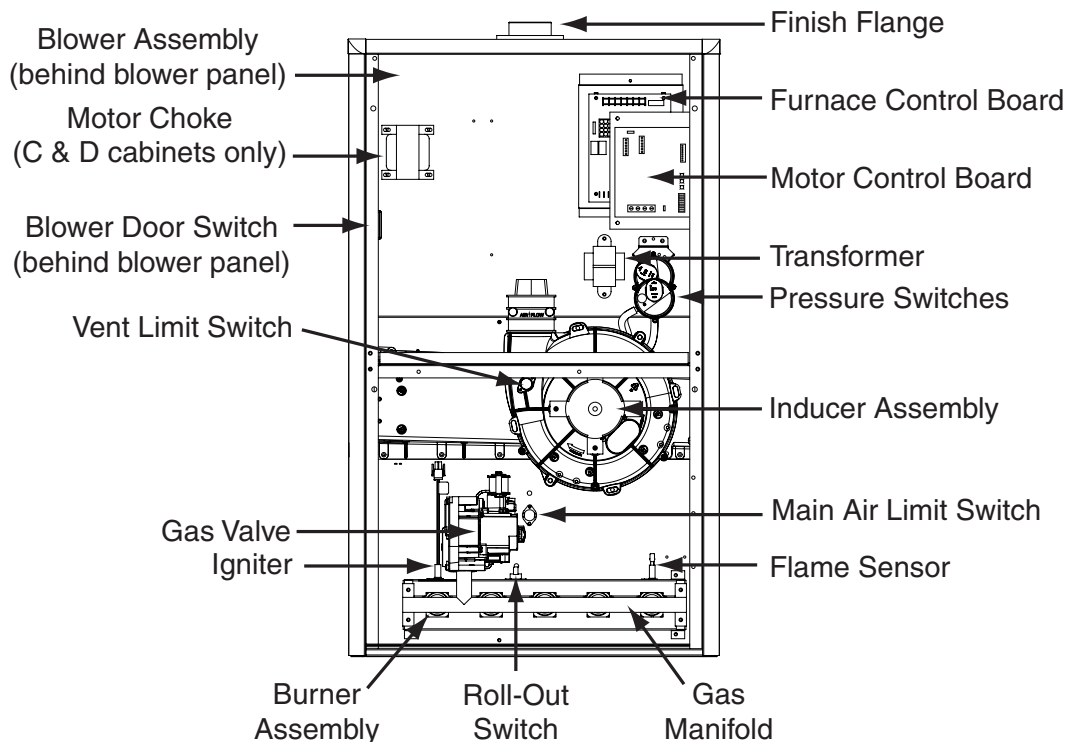

Figure 39. Component Locations
- If the Inducer Blower is operating, and items above have been verified, check the Blower Limit Switch and reset if necessary. See Figure 39 (page 44).
- If the furnace still doesn't operate, check the Flame Roll-out Switches (Figure 39) and reset if necessary.
The descriptions below are various functional components that affect the operation and shutting down of this furnace. Some of these components and their locations are shown in Figure 39 (page 44). If any component of the furnace must be replaced, use only factory authorized replacement parts specified in the Replacement Parts List provided online.